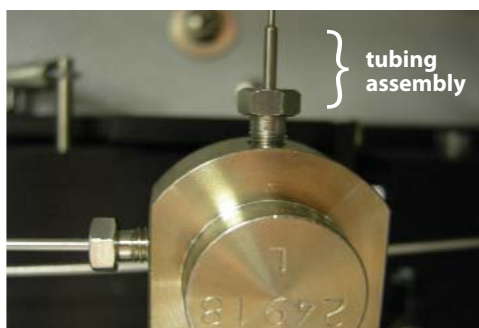

Figure 2
2. Install the 1/16" tubing side of Restek's Tubing Assembly for ASE® 200 Systems directly into the static or pressure relief valve, whichever applies (Figure 2).